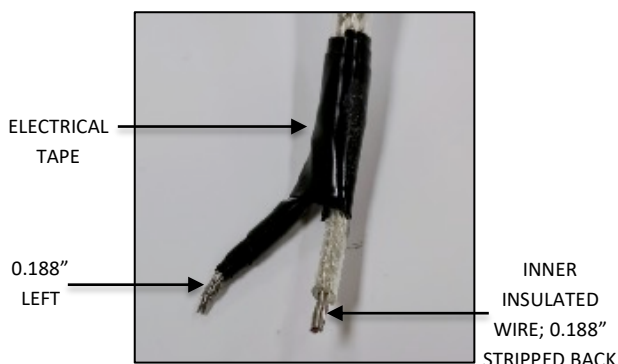
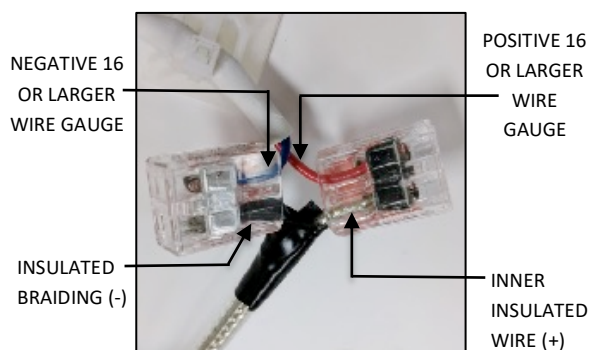

FIG. 25
FIG. 26
3. Using electrical tape, insulate the twisted strands leaving 0.188" exposed for connections. Strip off 0.188" of the inner insulation as you normally would for 18AWG stranded core wire as shown in FIG. 25 below. Connect the inner insulated wire (+) to the positive 16 gauge or larger wire ran in step 5 at the hanging bracket and Connect the outer braiding (-) to the negative 16 gauge or larger wire ran in step 5 at the hanging bracket FIG. 26 below.